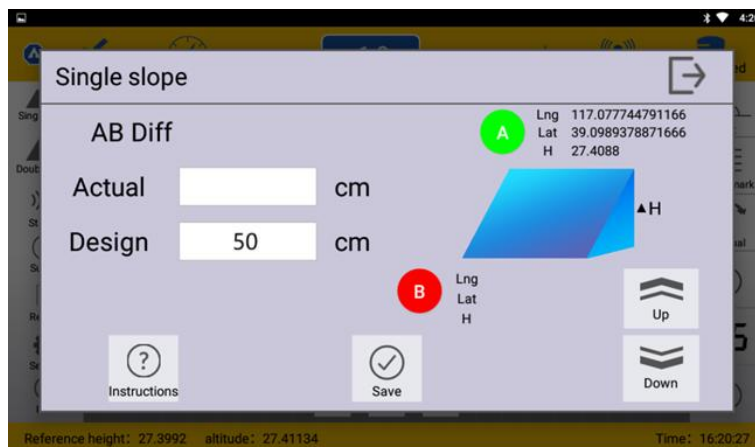

Figure 10
Step4. Drive to the highest point A, click the down button to stick the blade to the ground, click the A icon on the interface, and the icon turns green to indicate that the high point collection is complete. (Figure 10)